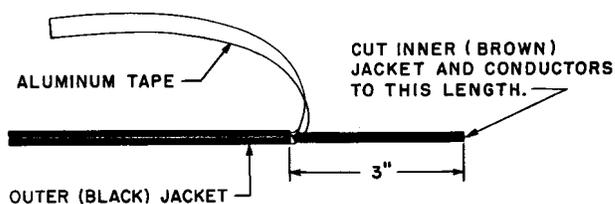

Fig. 6 – Inner Jacket Cut to Proper Length
- (3) Hold the slitter so the toe is slightly raised, to avoid catching the aluminum tape. Slit the outer jacket to the end of the wire and remove the jacket.
- (4) Unwind the aluminum tape to the end of the outer jacket. If the free end of the tape lies under the preceding wrap, it can be released by twisting the entire wire opposite to the lay of the tape near the free end. This will cause the tape to bulge so that it can be grasped with long nose pliers.
- (5) Measure 3 inches from the end of the outer jacket and cut off the excess portion of the inner (brown) jacket and conductors, as shown in Fig. 6.